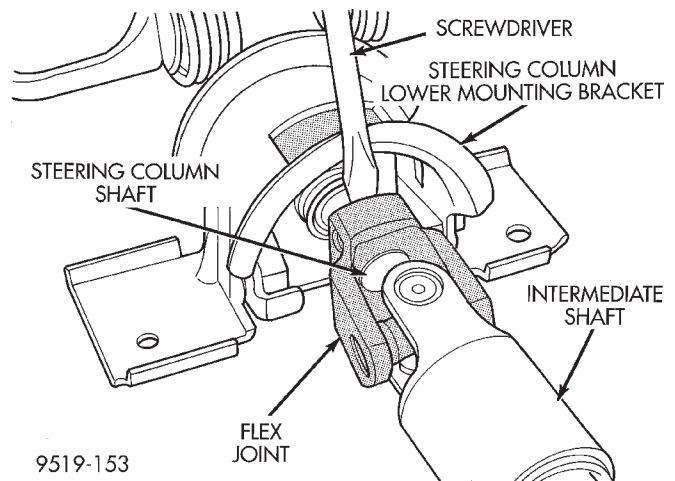

Fig. 21 Removing Flex Joint From Steering Column Shaft
(3) While holding hex on end threaded rod, tighten the nut on threaded rod of Puller, Special Tool 6831-A. This will pull the roll pin out of the flex joint.
(4) Using a screwdriver inserted between the flex joint and the steering column lower mounting bracket (Fig. 21) pry flex joint off steering column shaft.